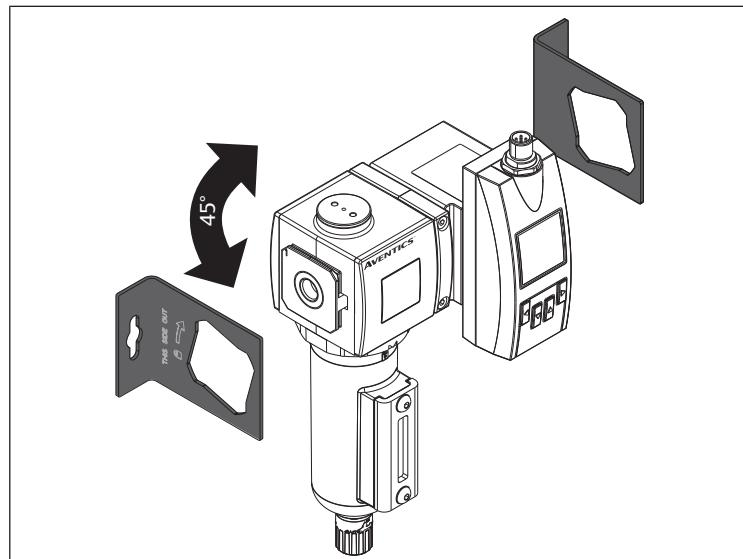

Fig. 6: Assembly with mounting bracket
- Mount the product with a mounting bracket. See → Fig. 6.